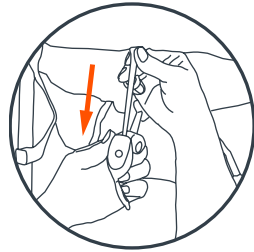
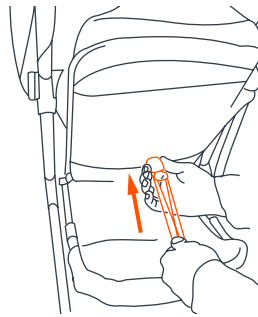

Fig. 18a
Fig. 18b
**18)** •The seat has a multiple position recline that is controlled by a strap and buckle assembly behind the seat (Fig. 18a). To recline the seat, loosen the strap through the buckle and adjust to the required recline position (Fig. 18b). To place the seat back in a more upright position, press upward on the seat back with one hand while pulling the strap through the buckle with the other. The strap will lock automatically.